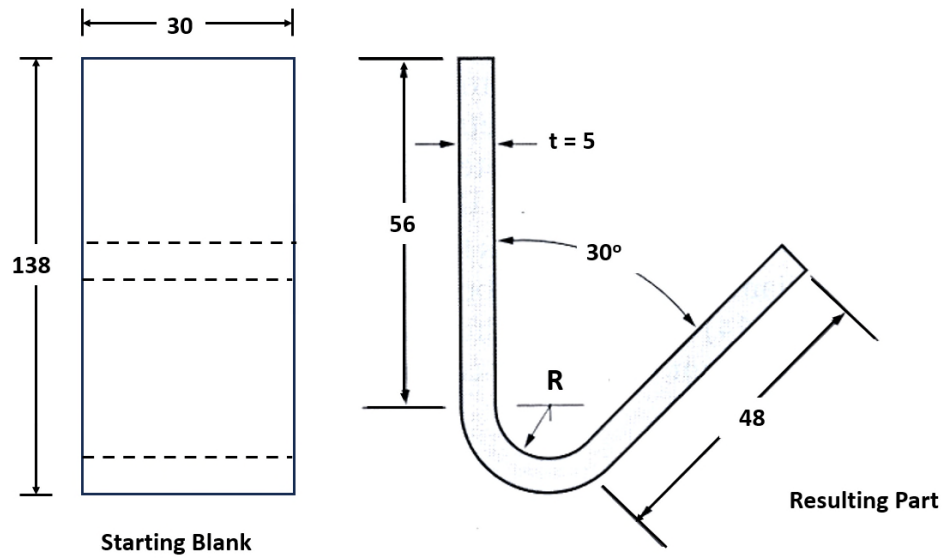

Figure 6: Sheet Metal Blank and Part
- (b) Figure 6 shows the starting blank and resulting sheet metal part of a bending operation performed on a 5mm thick cold rolled sheet metal. The starting blank is 138mm long and 30mm wide. The sheet is bent along the 30mm direction. The bend radius,  $R$  must not be greater than 12mm. Determine the following: